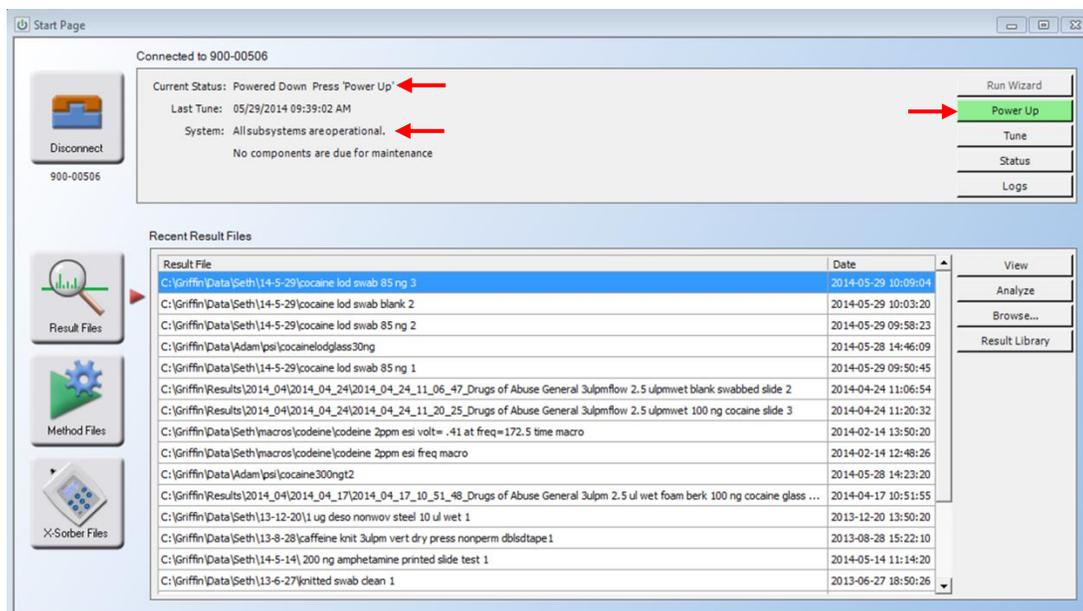

Figure 1.7 – AI-MS power-up/status window
4. Connect the instrument by pressing the “Connect” icon in the upper-left corner of the start page screen. The system is successfully connected when the current status is labeled as “ready” and all subsystems are operational (Figure 1.7).
- To power-up the AI-MS 1.2, click the “Power Up” icon to bring up the auto power control window (Figure 1.7). This process will take approximately 5 minutes to complete as the system vacuum needs to reach the desired pressure of $\sim 1.0 \times 10^{-5}$ Torr (viewable in the bottom right corner of the screen).